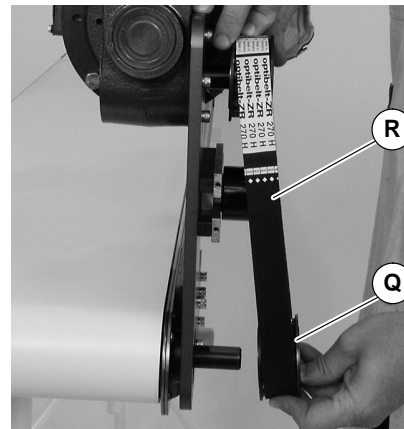

Figure 16
- c. Remove pulley (Q of Figure 16) and timing belt (R).